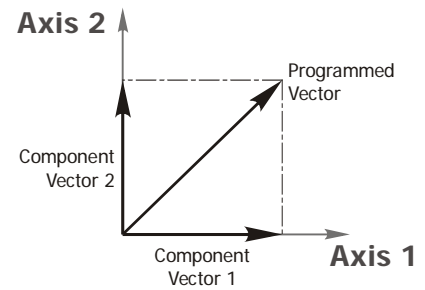

Figure R4.3 Programmed Vectors
Target Speed, Acceleration, and Deceleration define the vector for the path as a whole, not the individual axes, so they are programmed only once. As shown in figure R4.3 to the right, the IANF2(E) calculates the required component vector values for each axis before beginning the move.